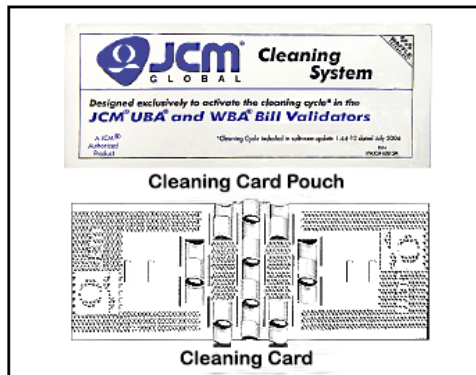

Figure 1 Cleaning System, UBA (P/N 501-000180R)
**Usage:** JCM's Waffle Technology Cleaning System provides a quick, easy method to wipe clean the UBA® Series Universal Bank Acceptor's Banknote Path and Sensors, and maintain a high Banknote acceptance rate. The Cleaning Card (Figure 1) features two rectangular cutouts that place the UBA into a cleaning cycle when detected by UBA Sensors. The Cleaning Card passes through the UBA (3) times, removing contaminants in the Banknote Path and cleaning Sensors and Rollers completely. Regular use of the UBA Cleaning System improves Banknote acceptance rates and customer satisfaction.